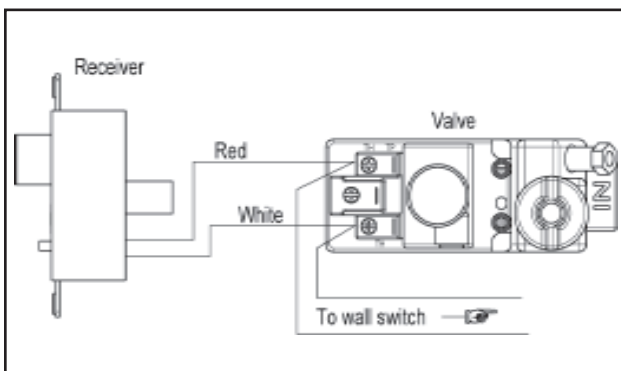

Figure 4 - Attaching the Lead Wires for the Wall Switch
- g. Reconnect the ON/OFF wall switch wires, if the wall switch is still desired. See Figure 4.
- f. Reconnect the ON/OFF wall switch wire if the wall switch is still desired. See Figure 4.